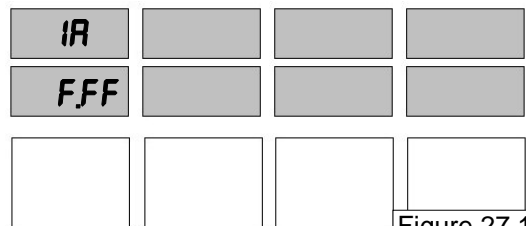

Figure 27.1
1. After the Manager's Mode has been accessed, press the number 2 and 7, then the **MODE** button on the keypad. The first display shows the current electronic calibration correction constant of the first configured meter. See figure 27.1. Use the \uparrow button or \downarrow button to view the current electronic calibration correction constant for each configured meter. Once you are viewing the desired meter, press **ENTER**.